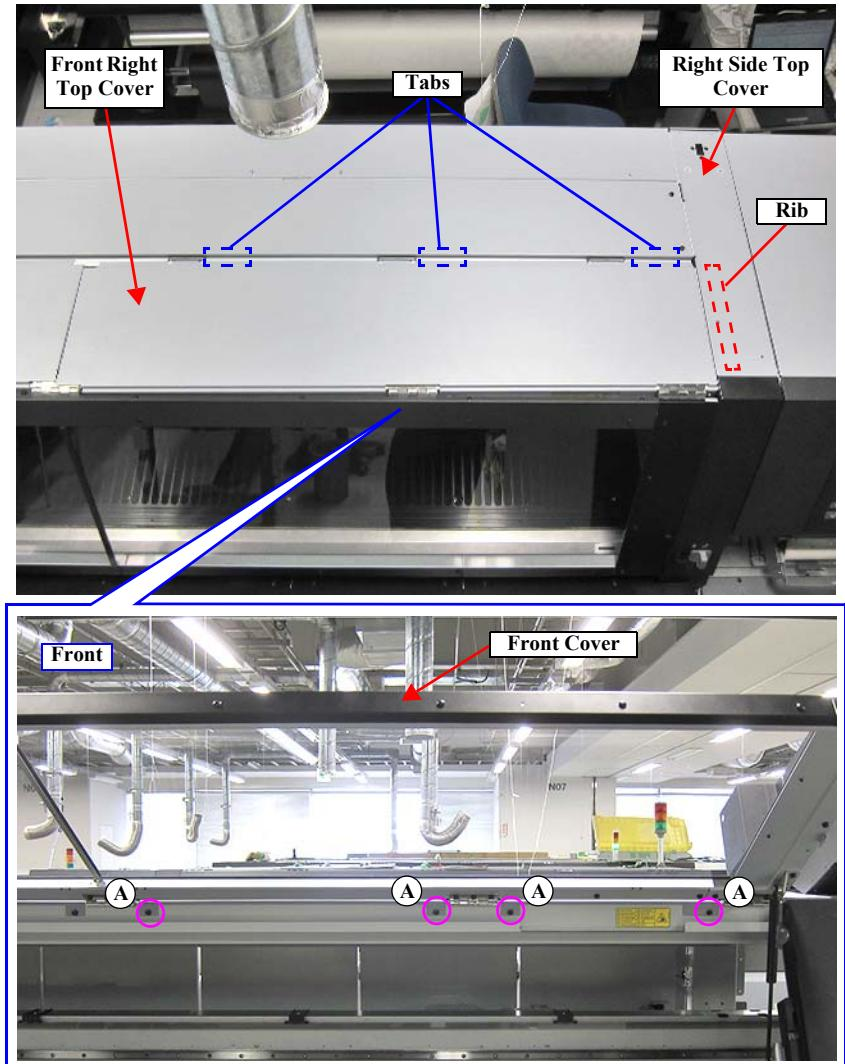

Figure 3-35.
- Insert the 3 tabs on the Front Right Top Cover into the positioning holes of the frame. (Figure 3-35)
- Insert the rib of the Front Right Top Cover beneath the Right Side Top Cover. (Figure 3-35)